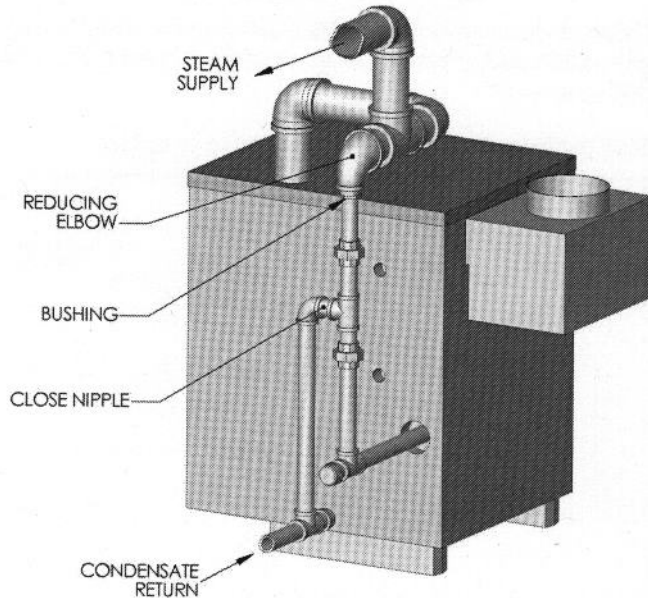

Figure 4.1: Piping – Single Supply Connection
1. Install supply pipes as shown in Figure 4.1. The minimum quantity and size of supply pipes are indicated in Table 4.1. Refer to Hydronics Institute Residential Hydronic Heating Installation Design Guide for guidance.
4. Connect the equalizing line as shown in Figure 4.1 or 4.2 assuring that the reducing elbow is facing down and that any bushings are vertical to prevent water build-up in the header.